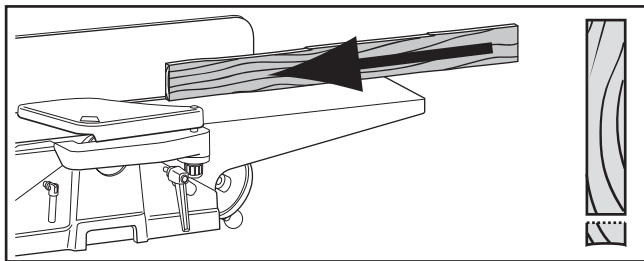

Figure 22. Edge jointing on a jointer.
1. Edge joint the concave edge of the 2x4 flat on a jointer, as shown in **Figure 22**.